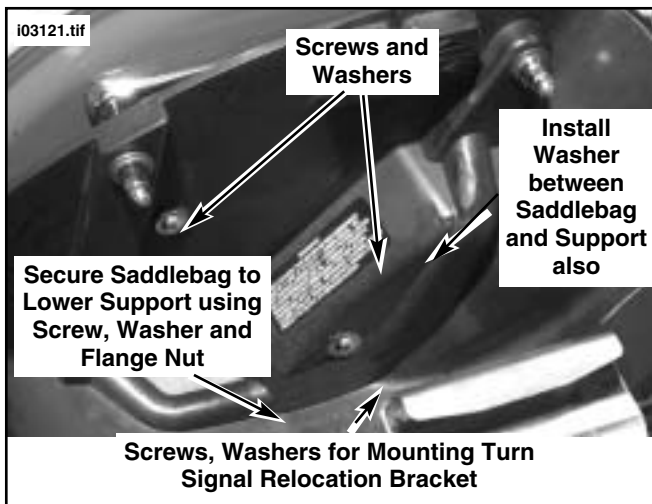

Figure 11. Install Saddlebag to Support
18. See Figure 11. Obtain two large screws (P/N 4098) and four large flat washers (P/N 6416). Install saddlebag to support with screw through washer and grommet (in saddlebag), then through washer (P/N 6416) and into threaded portion of saddlebag support. Repeat for the remaining screw and two washers. Do not tighten completely at this time.